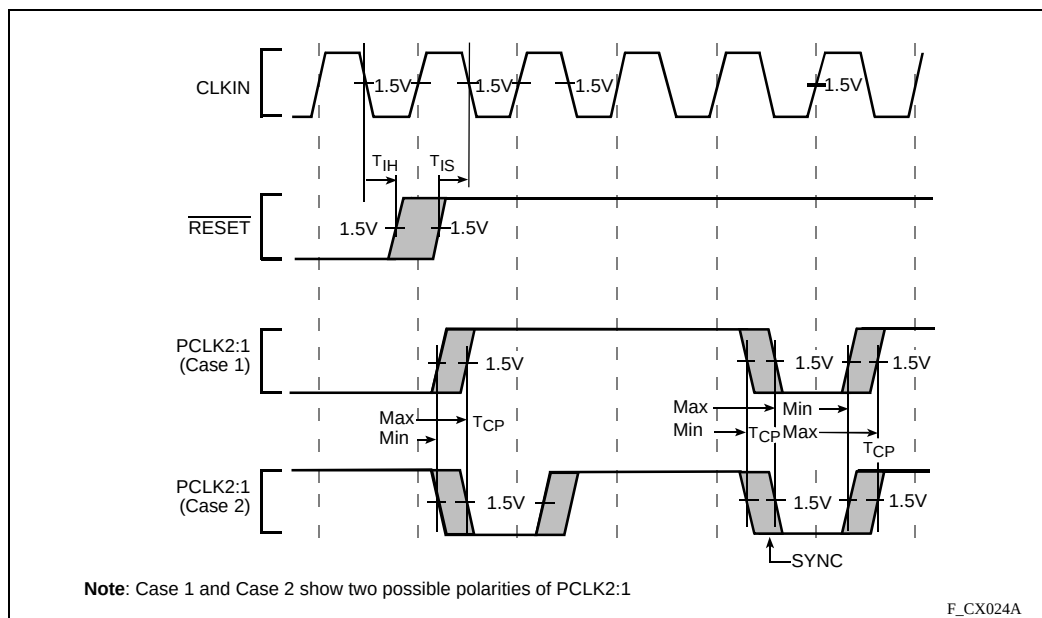

Figure 22. Clock Synchronization in the 2-x Clock Mode
- In 2-x clock mode, $\overline{RESET}$ is an asynchronous input which has no required setup and hold time for proper operation. However, to guarantee the device exits reset synchronized to a particular clock edge, the $\overline{RESET}$ pin must meet setup and hold times to the falling edge of the CLKIN. (See Figure 22.)